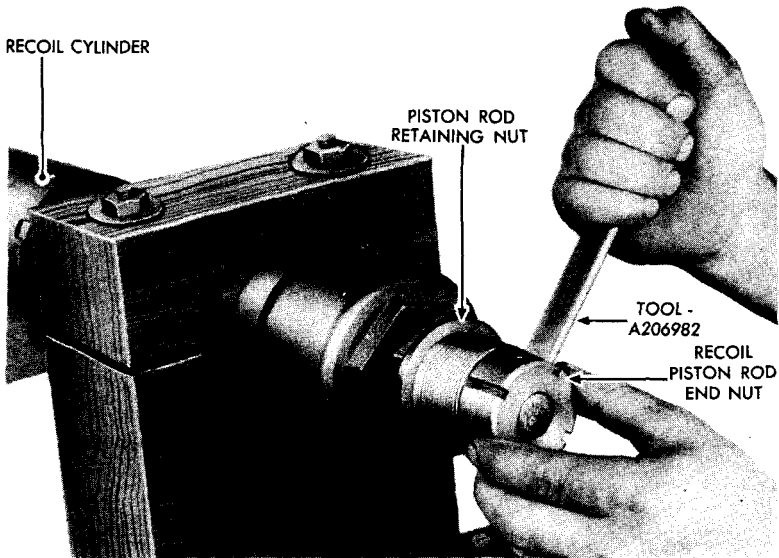

Figure 74 – Removing Recoil Cylinder Piston Rod End Nut
(3) If piston rod end nut is too tight for manual removal, insert handle end of wrench TKLX1A in one of the slots provided in nut and loosen (fig. 74).
(1) Thoroughly clean recoil cylinders, their recess in breech ring, and the cradle with SOLVENT, dry-cleaning, then thoroughly dry with compressed air (if available) or a CLOTH, wiping. Place a film of COMPOUND, rust-preventive, light, in back of breech ring recess where piston rod retaining nut (fig. 74) screws into breech ring, to prevent corrosion due to condensation. Rub a film of GREASE, graphited, light, on threads of breech ring recoil cylinder recess and on threads of retaining nut (fig. 74).